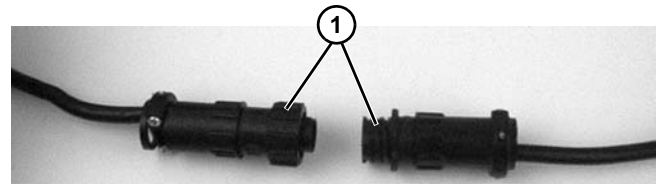

Figure 29
1. For DC variable speed motor, unplug motor cord at disconnect (**Figure 29, item 1**).